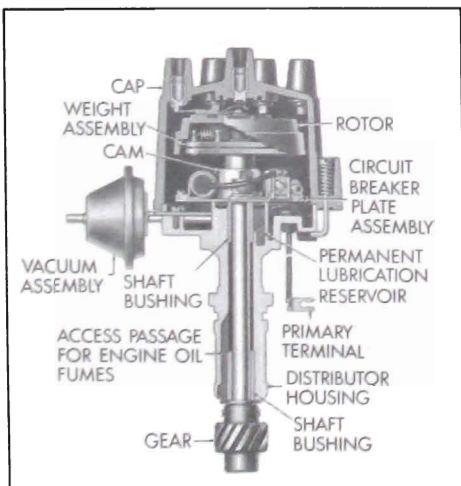

Figure 10-49—Distributor, Sectional View
3. Rotor. If rotor is cracked, spring contact is badly worn, or rotor tip is badly burned, rotor must be replaced. See Figure 10-49.